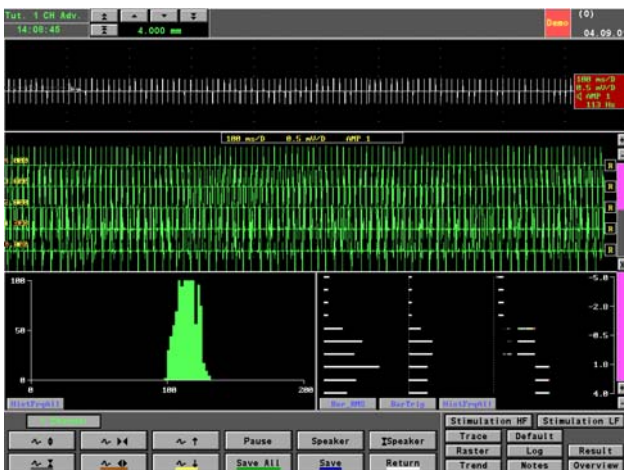

Figure 87 The Electrode Has Passed the Target by 4.000mm
- Alter the distance to the target from 3.000 to 4.000mm; see Figure 87 below.